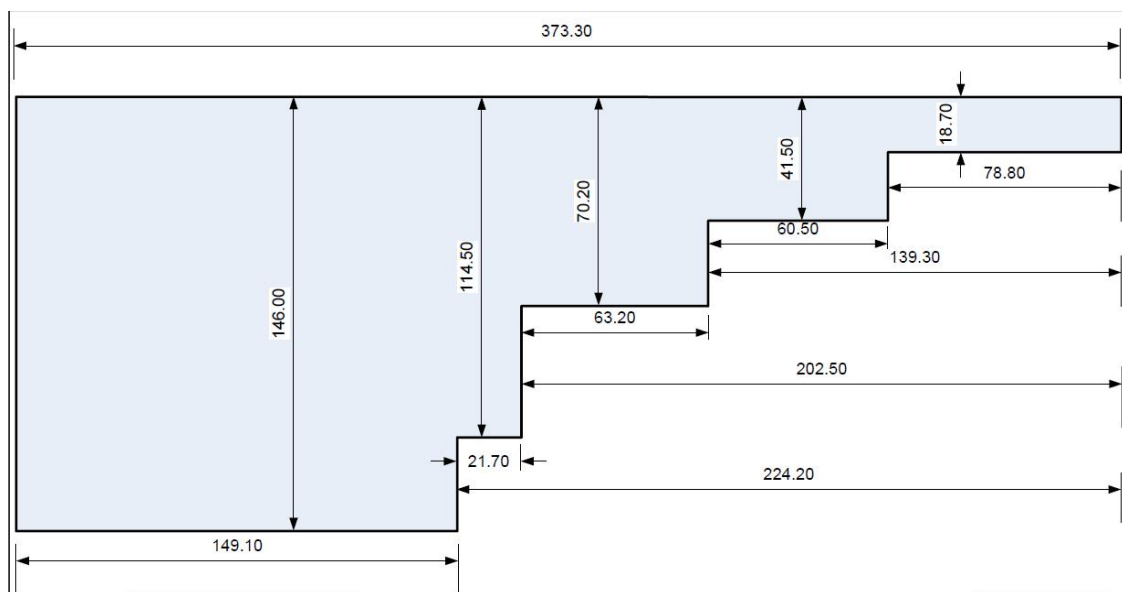

FIGURE 1. SEPTUM DIMINTIONS
2. Adjust size of septum to optimize circularity – Inside waveguide measurement = 5.75 inches, so the rest of the septum dimensions are based on this dimension which equates to 1286 MHz. So using the OK1DFC spreadsheet just enter a frequency of 1286 MHz and the spreadsheet gives you the same numbers as I have in Figure 1, below.
See Appendix 1, "Bill of Materials" for a list of what is required for this project. I did not include parts for my mounting method. Dimensions for the septum are in Figure 1, below. Dimensions for the rear wall, probes and disks are in Figure 2, below. All parts are pictured in Figures 3 and 4 below.
2. Cut and file septum according to OK1DFC spreadsheet with F= 1286 MHz (See Figure 1). The straighter and smoother you get the top and bottom edges, the easier it will slide into the tube. To cut the septum it is best if you use power tools. A hand saw would be very tedious for this. A band saw is best, to get the most accurate cut to minimize filing. After very careful measuring and marking, I cut away a large piece of unnecessary material first.